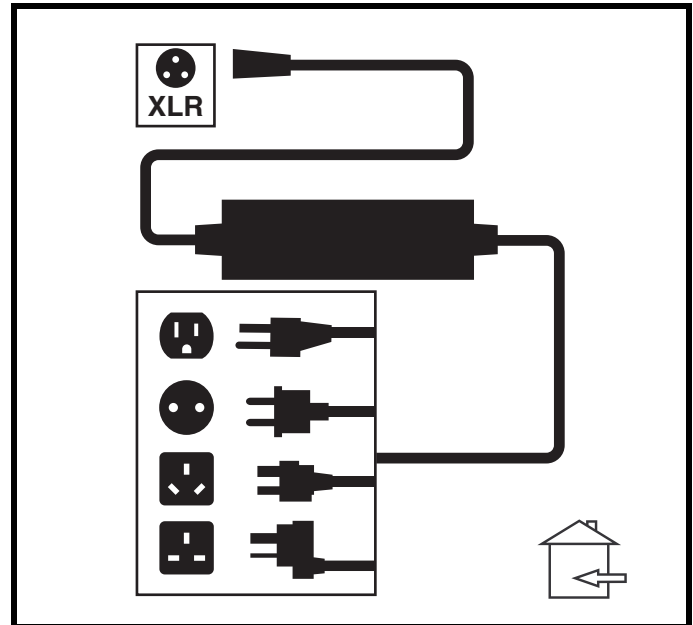

Figure 15. Battery Charging
1. Position the front of your power chair next to a standard electrical outlet. See figure 15.
3. Plug the off-board charger into the off-board charger/programming socket on the controller. See figure 15.